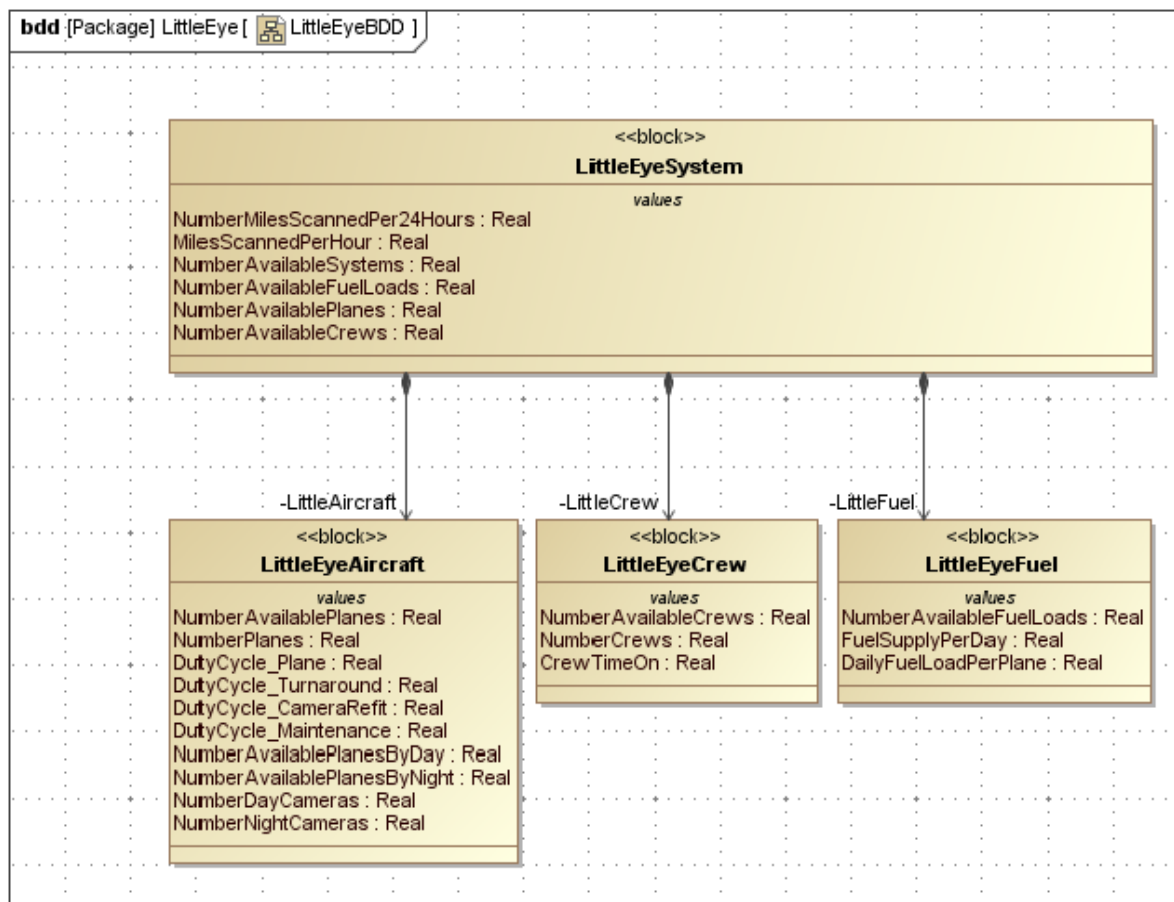
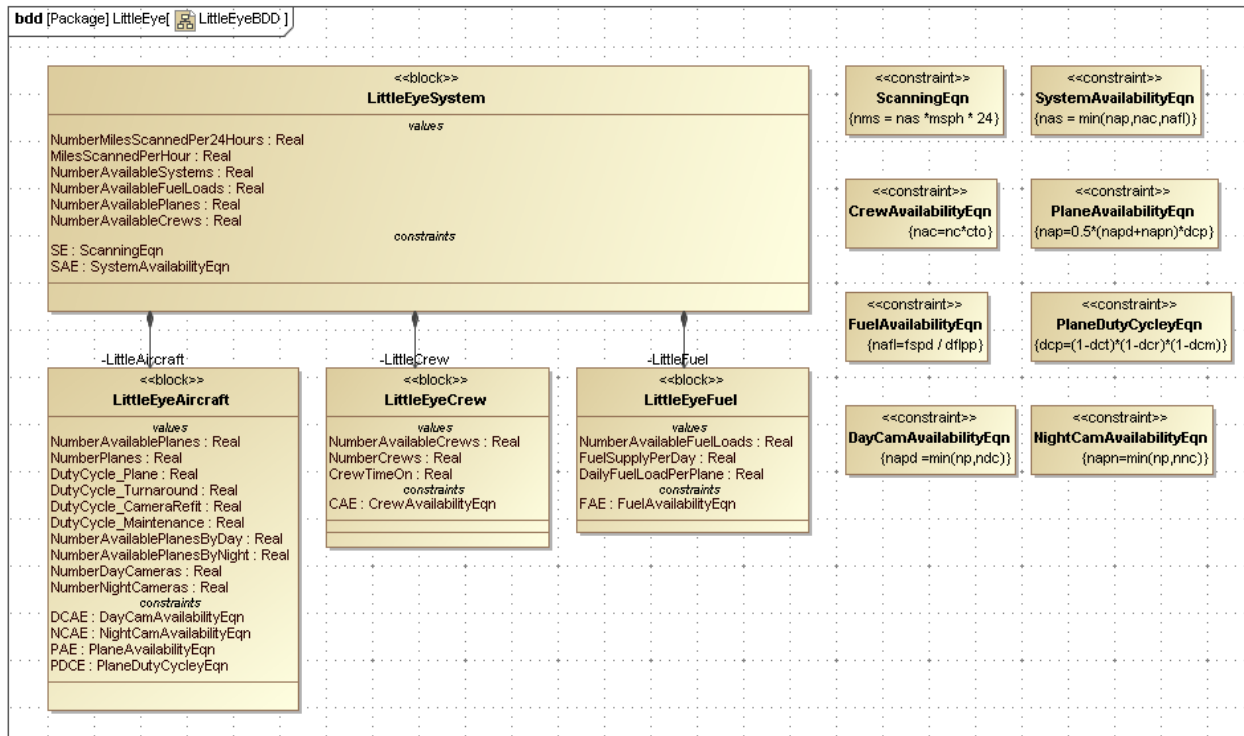
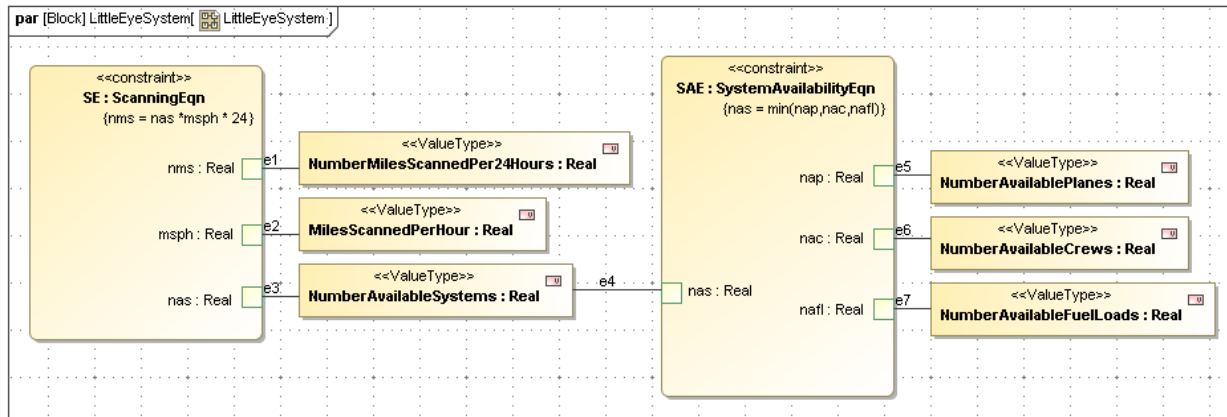

Figure 4.2 Structural Elements in Block Definition Diagram LittleEyeBDD
Figure 4.3 Block Definition Diagram with Constraints and Model added
Figure 4.4 LittleEyeModel Parametrics Diagram
4. Create a Block Definition Diagram containing the four structural elements with attributes as shown in Figure 4.2
5. Inside LittleEye, create eight constraint blocks, which contain the eight mathematical relationships appearing in Figure 4.1, using the procedure described in the earlier tutorials. Figure 4.3 shows the eight constraint blocks displayed on the right side of the LittleEye Block Definition Diagram. The parameter list has been hidden for the constraint blocks by selecting Presentation Options→Suppress Parameters, Operations, Attributes on each block.
6. Using an “object-oriented” programming approach, the four elements of Figure 4.2 will be converted into independent submodels containing internal constraints and relationships. Each sub-model could be modified without damaging the larger system model. It could also be copied and reused in a different project.
- a. The submodel LittleEyeSystem will contain the six values listed in Figure 4.3 plus two constraints that connect them, the Scanning Equation and the System Availability Equation at the top right of Figure 4.2. See Figure 4.4.
- vi. Using connectors, wire the value properties and constraint parameters as shown in Figure 4.4.